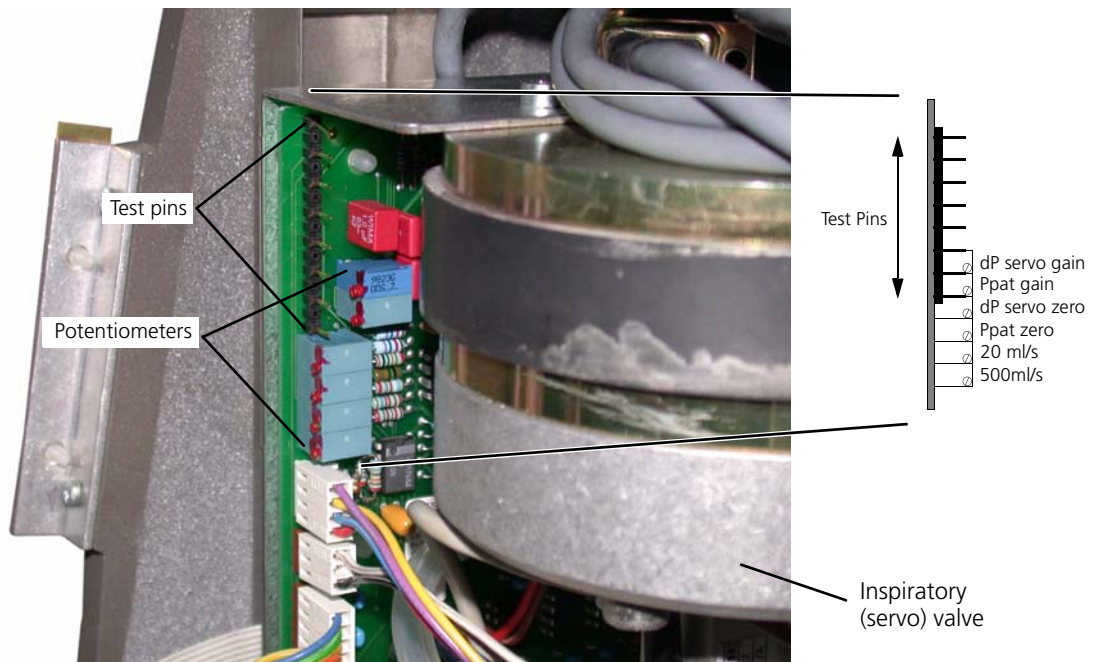

Figure 10-15. Location of the potentiometers on the inspiratory (servo) valve board
- The servo board. This is located to one side of the inspiratory valve as shown on Figure 10-15.